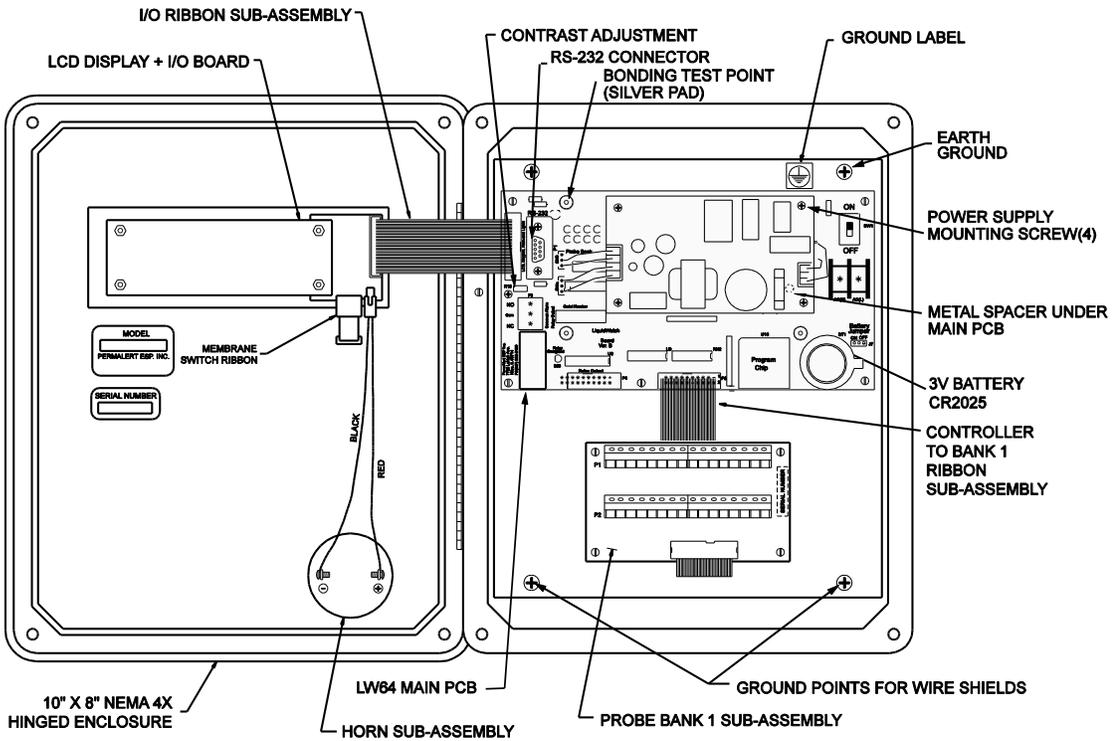
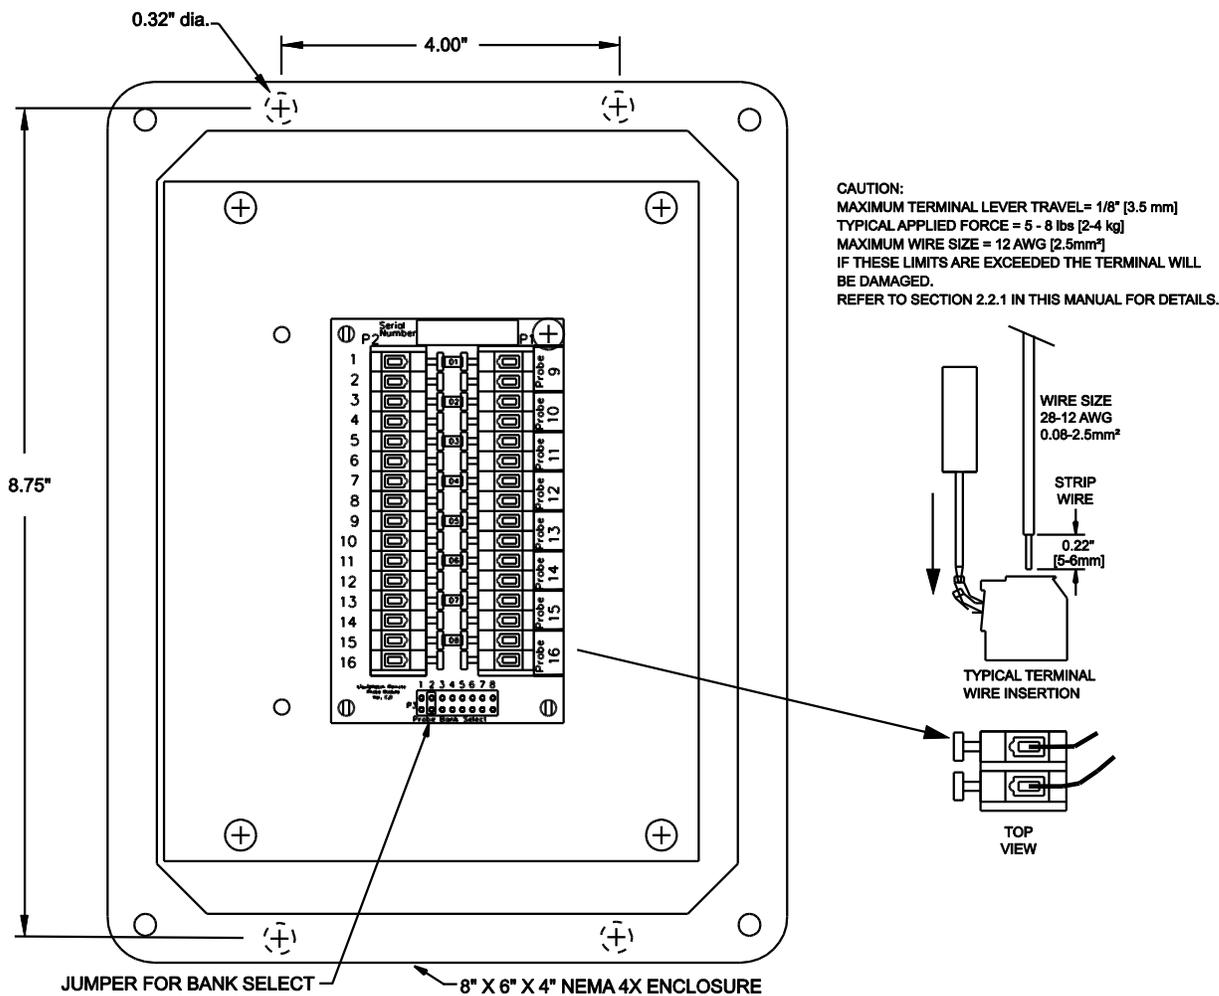

Figure 1
Figure 5
2. The power conduit entrance should be located in the upper right corner of the enclosure (see Figures 1 and 2). **Model LW64-IS must not have the power conduit in the lower portion of the enclosure, where it will interfere with the partition or the intrinsically safe wiring compartment.** Inspect and clean the interior of the enclosure before continuing. Connect all electrical conduits.
3. It is recommended to connect the unit to an isolated (circuit breaker protected) 100-240 VAC, 50/60 Hz circuit. **Earth ground must be connected** solidly to the ground screw, which is located in the upper right corner of the LiquidWatch alarm panel back plate. **Failure to connect earth ground can result in faulty alarm panel operation.** See Figures 1 and 2 for LiquidWatch alarm units wiring diagrams.
There are ground wires that must be securely connected to the white backplate mounting screws. In each case, the external tooth lock washer should be placed against the white painted backplate and then the ring terminal placed on top of the lock washer (see Figures 1 and 2 for Ver. B LiquidWatch Controller Board):
The terminals on RPM-8 Remote Probe Modules and RM-4 Relay Modules are now a quick-connect design that provides an easy, fast and robust connection. A flat blade screwdriver, 1/8" [3.5 mm], is used to press down on the terminal lever and open the terminal for easy wire insertion. Release the lever and the wire is tightly clamped. **The acceptable wire size for connection to any terminal, is 28 - 12 AWG [0.08-2.5 mm²].** The terminals can accommodate solid or stranded wires. **If ferrules are used with stranded wire, the maximum wire size is 14 AWG [1.5 mm²].** Refer to figure 5. **Caution: The lever only travels 1/8" [3.5 mm] to open the terminal completely, and only requires 5 - 8 lbs [2-4 kg] force. Do not exceed these limits or the terminal will be damaged.**
LiquidWatch is provided with an RS-232 communications port. Refer to Figures 1 or 2 for the location. There is a 9-pin connector located on the controller board.
The LiquidWatch alarm panels are designed to monitor up to 64 probes. The 64 probes are organized in 8 banks of 8 probes. The standard alarm unit has probe bank 1 installed within the enclosure (see Figures 1 and 2). This can monitor probes 1 – 8, connected to terminal strip P1. If additional probes are monitored, remote probe modules (Model RPM-8) are required. Each RPM-8 has a bank select jumper, P3 that can be set to bank 2 through bank 8 and will monitor 8 probes as follows (see Figure 5):